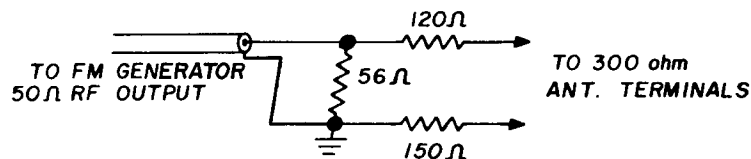

Figure 3
1. Set the SELECTOR switch to FM and turn the FM MUTING switch off. Connect an FM Generator to the 300 ohm antenna terminals using a matching transformer with a 1:1 voltage ratio or, if necessary, use a 2:1 ratio resistive network as shown below in Figure 3.